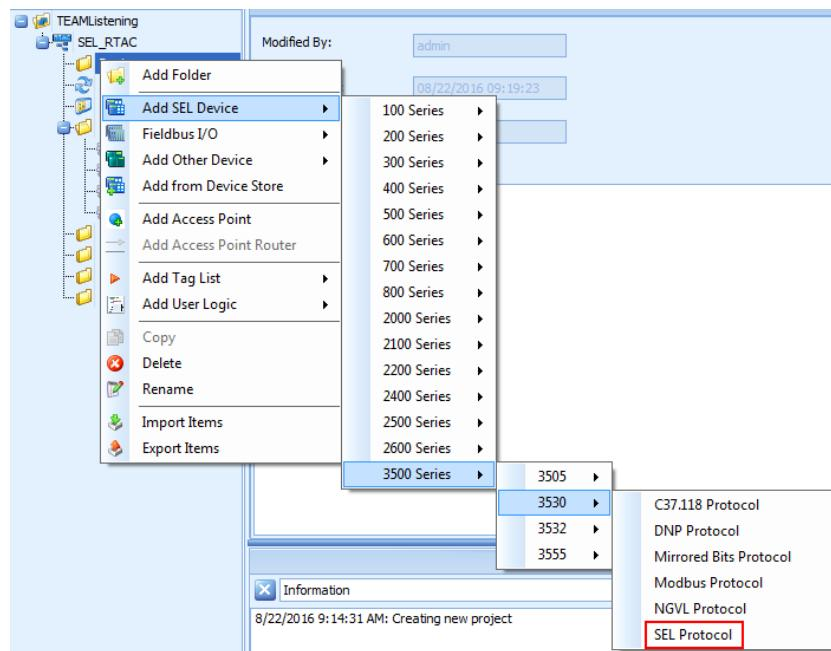

Figure 152 Add an RTAC
Step 2. Add a **3530** server device with **SEL Protocol**, as shown in *Figure 152*.